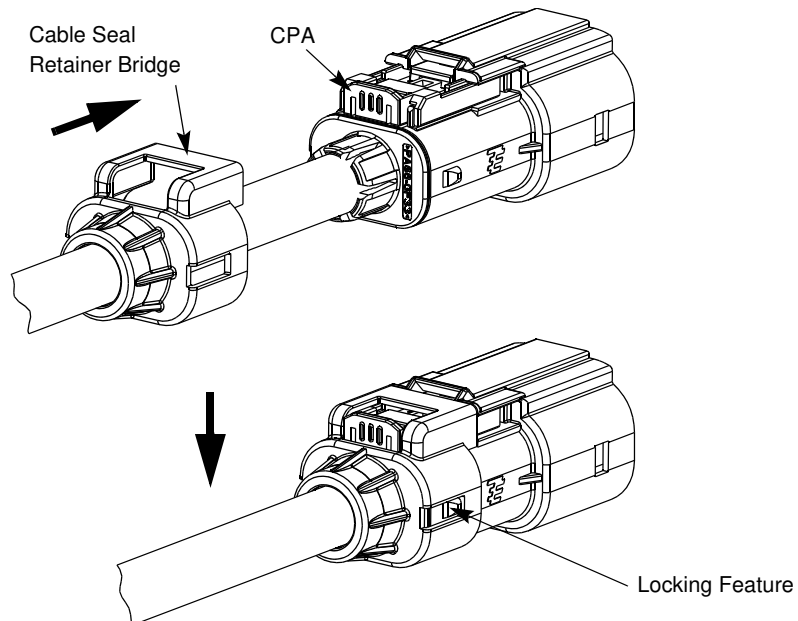

Figure 23
22. Slide the cable seal retainer forward on the cable and over the cable exit end of the connector assembly until it fully locks to the connector outer housing. A slight rotation of the cable seal retainer may be required to get the bridge portion over the CPA. Visually check to ensure that both locking features are engaged and the CPA is in the correct position as shown in Figure 23. Gently pull back on the cable seal retainer to check that it is fully locked in place.